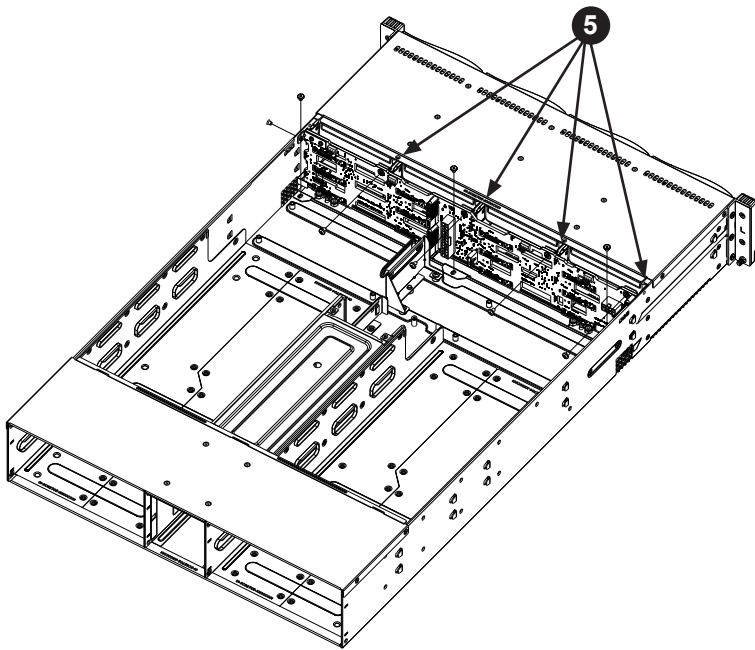

Figure 6-6. Removing the Screws at the Top of the Backplane
6. Loosen the three screws in the spring bar, located on the floor of the chassis, indicated by the arrows below (Figure 6-6).